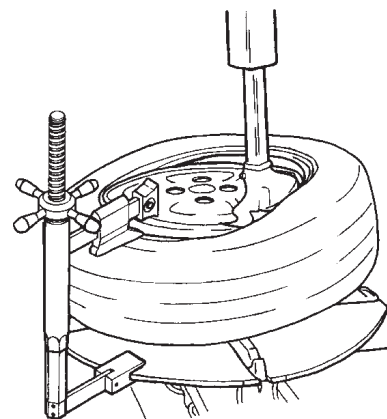

Fig. 4.2-4
C. Mount the upper bead following the directions in section B. With low profile tires the bead holding clamp (option #EAA0247G11A Fig. 4.2-4) can help to prevent the top bead from prematurely seating during the mounting cycle.